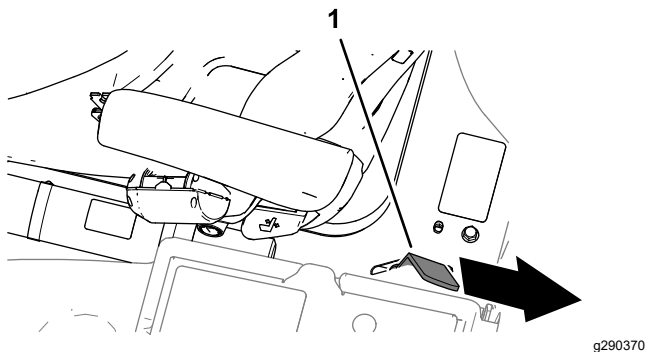

Figure 47
3. Fully lower the platform and move the platform-latch handle toward the rear of the machine until the latch hooks fully engage the locking bar (Figure 47).